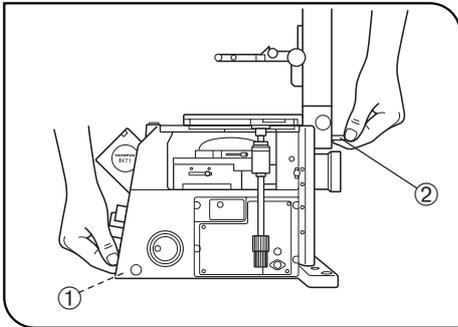

Fig. 2
2. When moving the microscope, remove the observation tube, condenser and reflected light mercury lamp housing, then carefully carry the microscope frame by the base (front edge) ① and the grasping part on the illumination column ② as shown in Fig. 2. (Weight: approx. 20 kg)